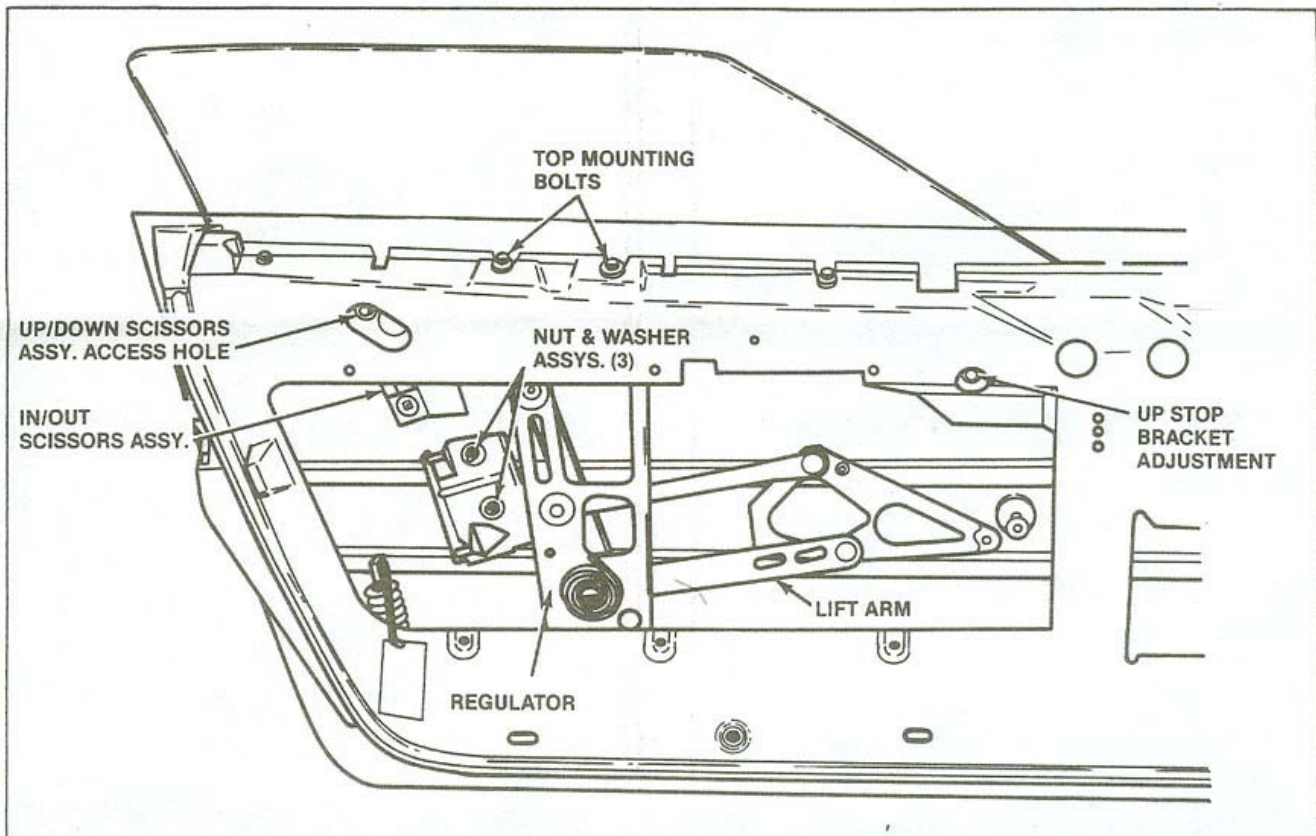

Figure 3. Regulator Installed in Door
5. Install regulator as follows (see figure 3):